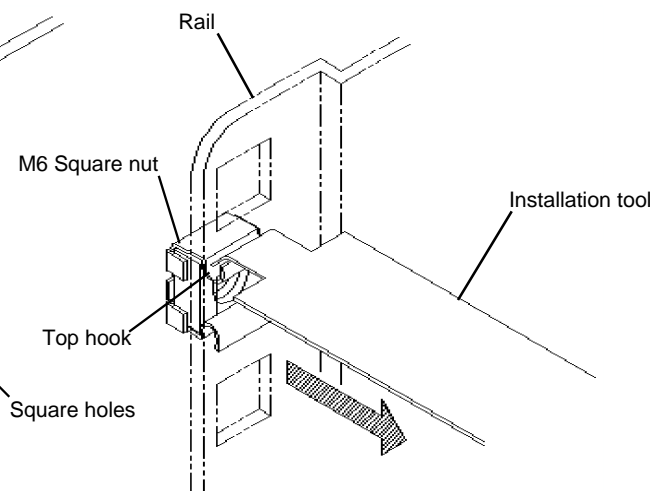

Figure 7
2. Insert the **Installation Tool** into the square hole and capture the top hook of the Nut. See **Figure 7**.
3. Pull outward and upward snapping the nut into place. See **Figure 7**.
2. Insert the **installation tool** into the square hole and capture the top hook of the nut. See **Figure 7**.